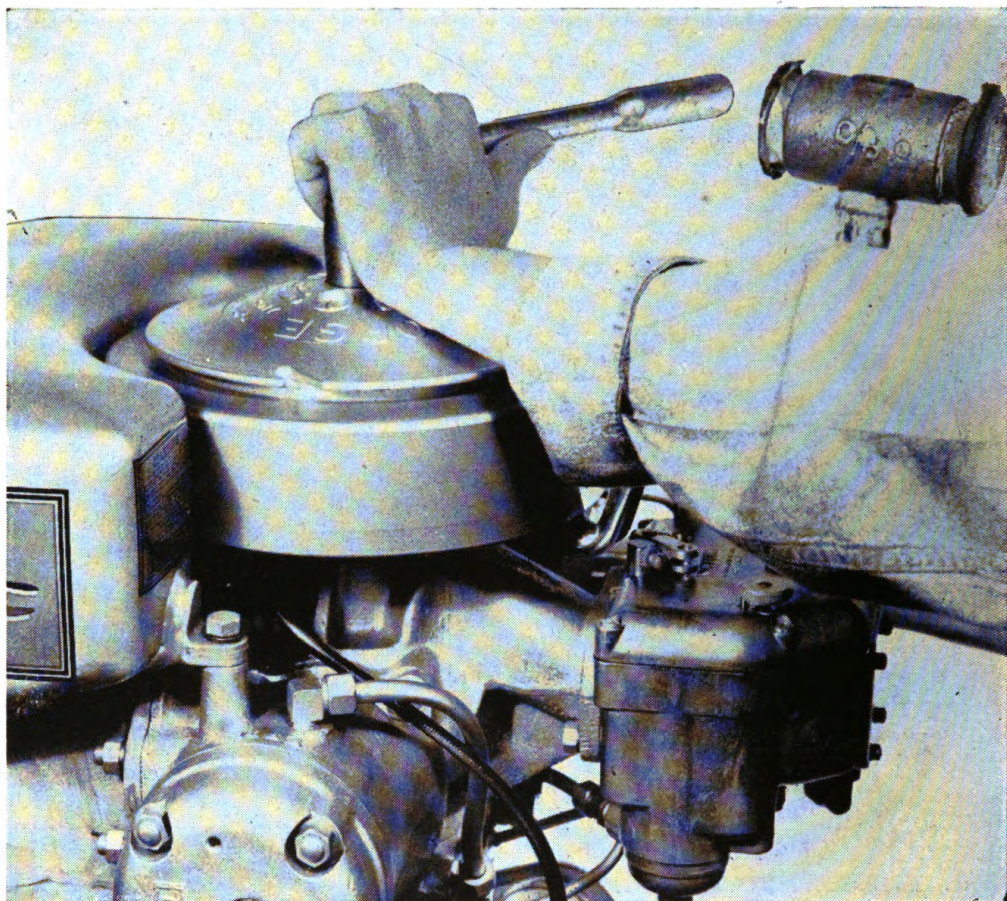

Figure 95. Using wrench on flywheel nut. (Strike wrench with hammer or mallet to loosen flywheel from crankshaft.)
a. TO REMOVE FLYWHEEL. The flywheel nut and cover plate act in combination as a puller when the flywheel nut is unscrewed. The nut has a shoulder that bears against under side of cover plate. Unscrew flywheel nut until it tightens against cover plate. Strike handle of wrench sharp blow with hammer or mallet as shown in figure 95. Two or three blows should be sufficient to jar flywheel loose from taper on the crankshaft. Lift flywheel from crankshaft.